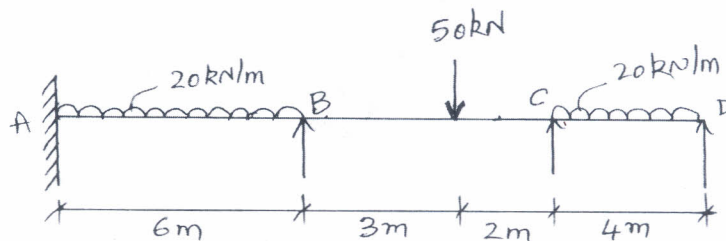

Fig.Q.9
- Analyze the continuous beam shown in Fig.Q.9 by moment distribution method. The support B sinks by 10mm. Take $E = 2 \times 10^5 \text{ N/mm}^2$ and $I = 120 \times 10^6 \text{ m}^4$.